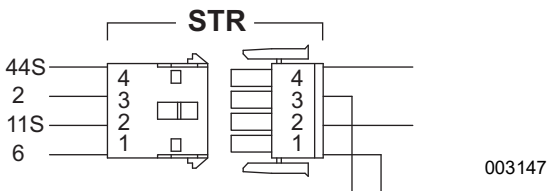

Figure 2-15. Stator Connector (STR) Pin Locations
- See **Figure 2-15**. Disconnect the STR connector located in the wire harness.
3. See **Figure 2-15**. Disconnect the STR (stator) connector on the harness.